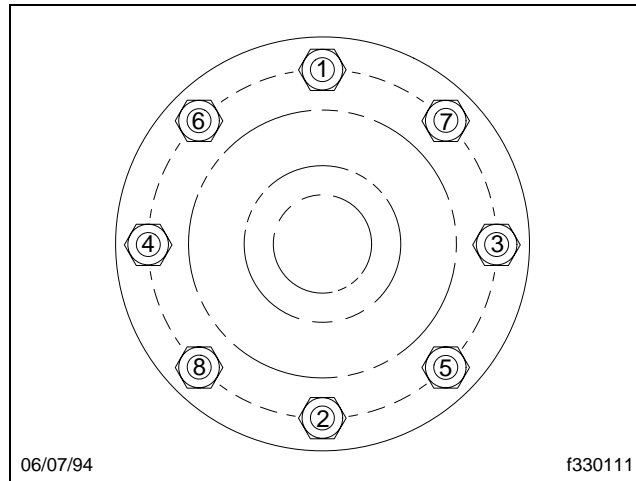

Fig. 8, Tightening Sequence, Drive Axle Stud Nuts
18. If needed, install the tapered dowels and washers on the drive axle studs. Install the drive axle stud nuts. Using the sequence shown in **Fig. 8**, tighten the nuts to the torque values given in the table in **Table 5**.